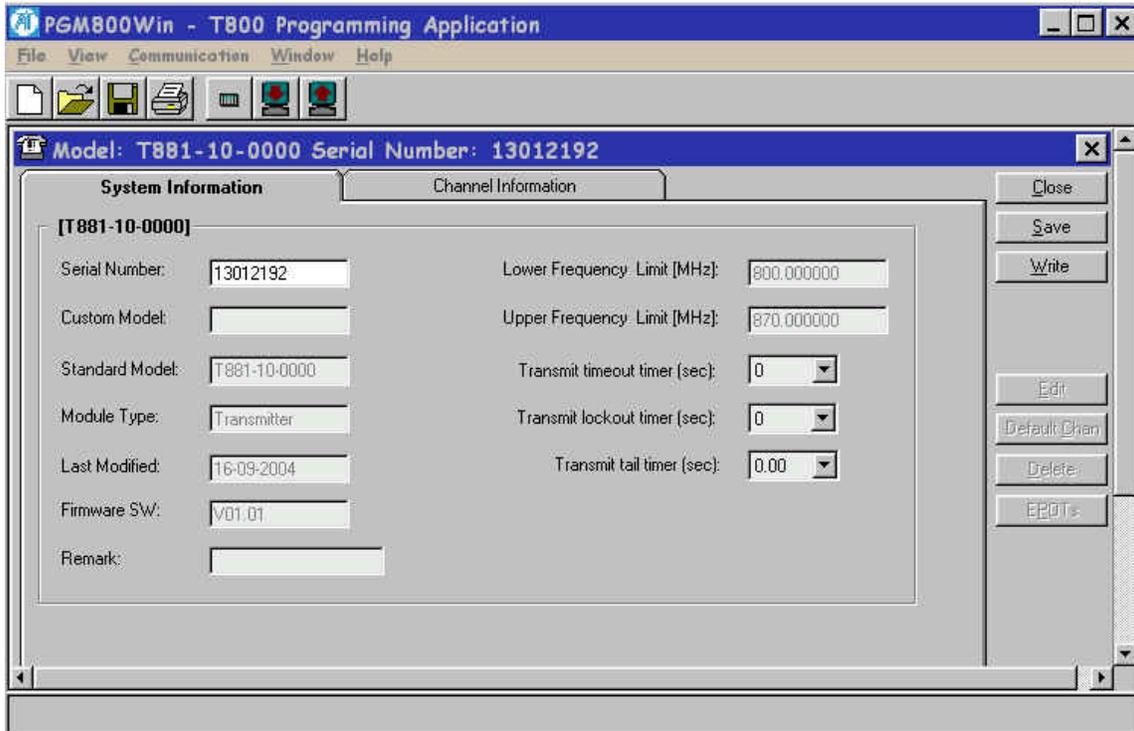
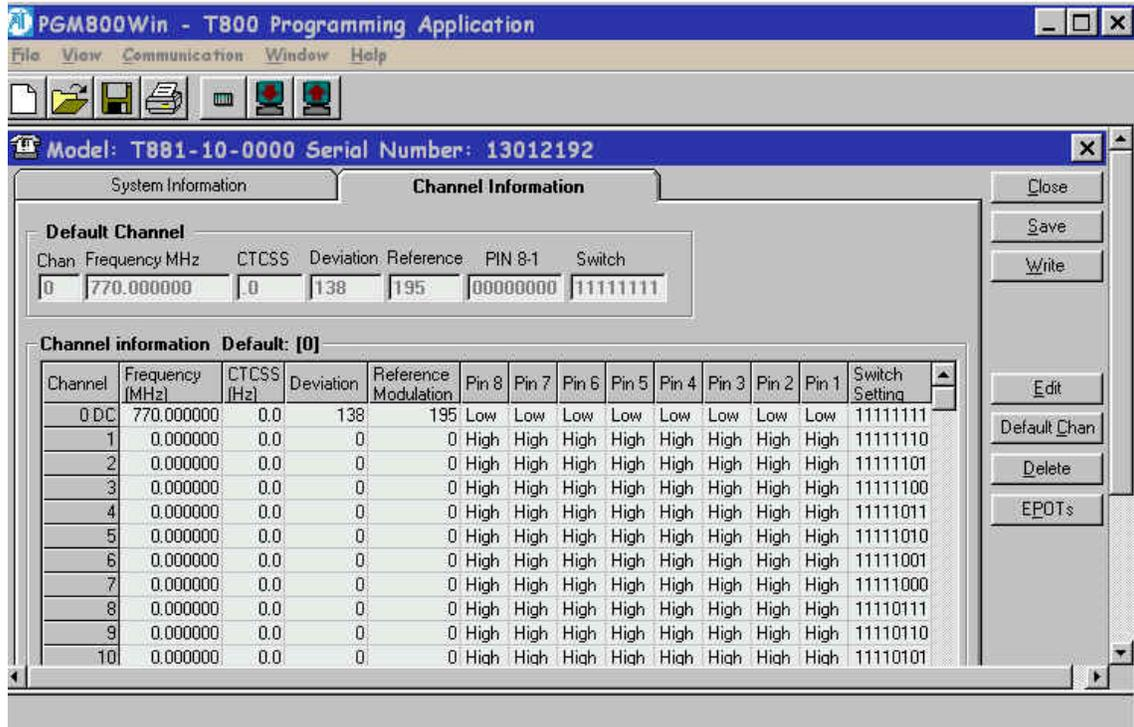

Figure 21 - Exciter System Information Sample
Figure 22 - Exciter Channel Information Sample
- Refer to Figure 21 and Figure 22 for screen program examples.